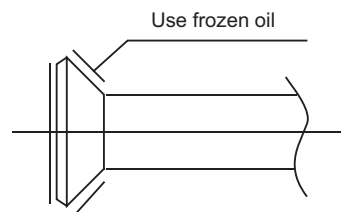

Fig.6-1
- ① Bend the tubing in proper way. Don't harm them.
- ② Daub the surfaces of the flare pipe and the joint nuts with frozen oil, and wrench it for 3~4 rounds with hands before fasten the flare nuts. (Refer to Fig.6-1)
- ③ Be sure to use two wrenches simultaneously when you connect or disconnect the pipes.